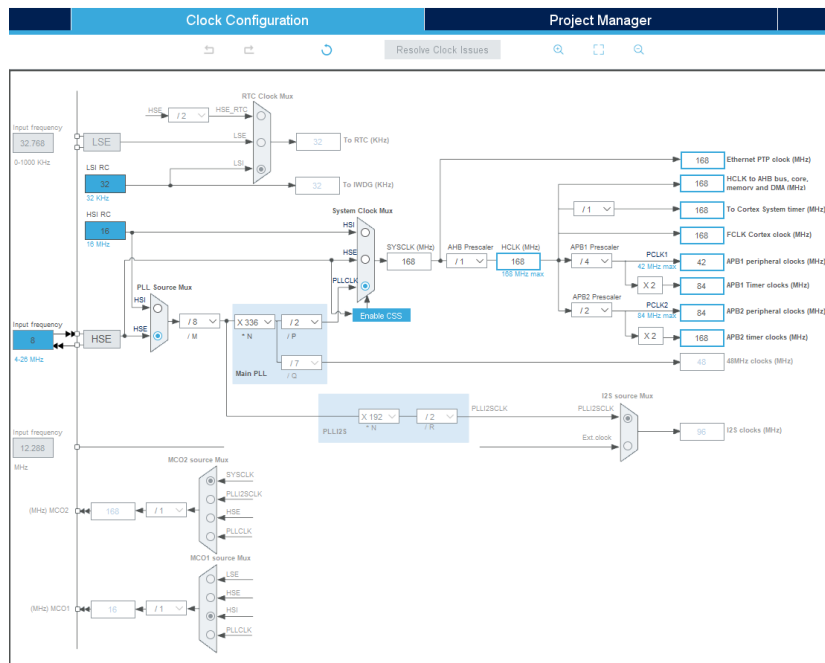

Figure 3
4. Come to the Clock Configuration menu and control the settings as in Figure 3.